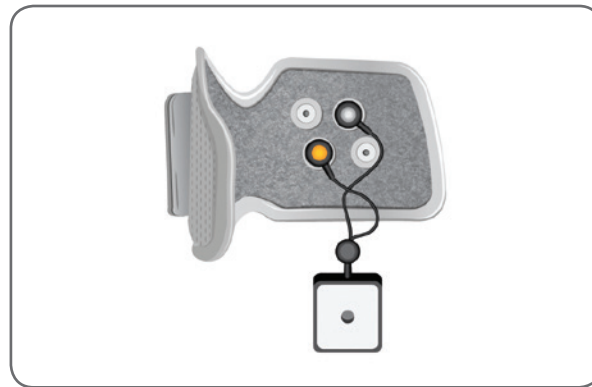

Figure 13-1: Tester Connected to Lower Leg FS Cuff
1. Connect the Tester to the blue and orange plug holes on the lower leg FS Cuff. See Figure 13-1.